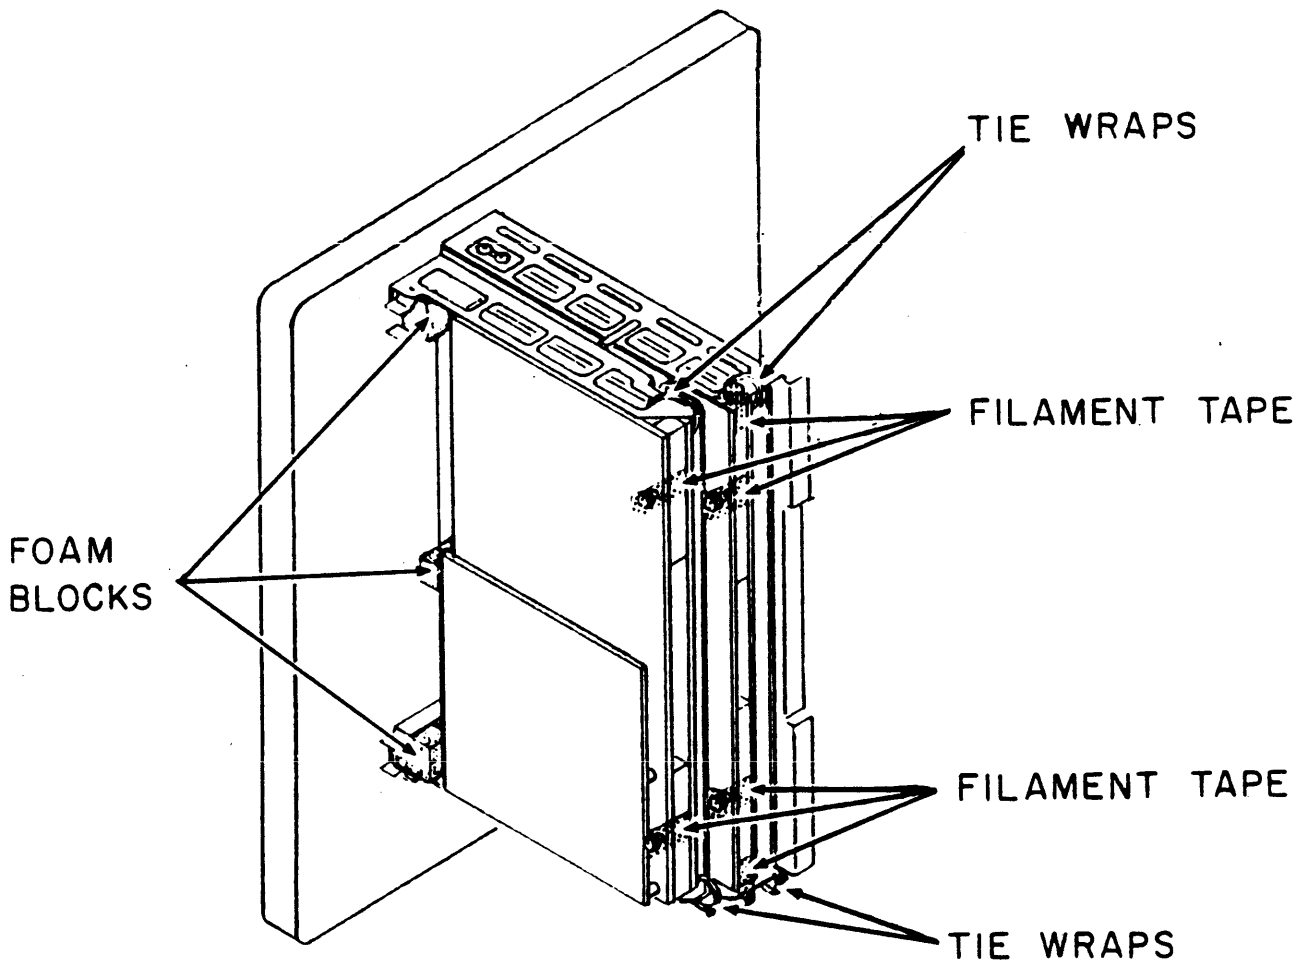

Figure 3-20. Tape Deck Shipping Material
18. Remove the filament tape and the tie-wraps from the PWAs. See figure 3-20.